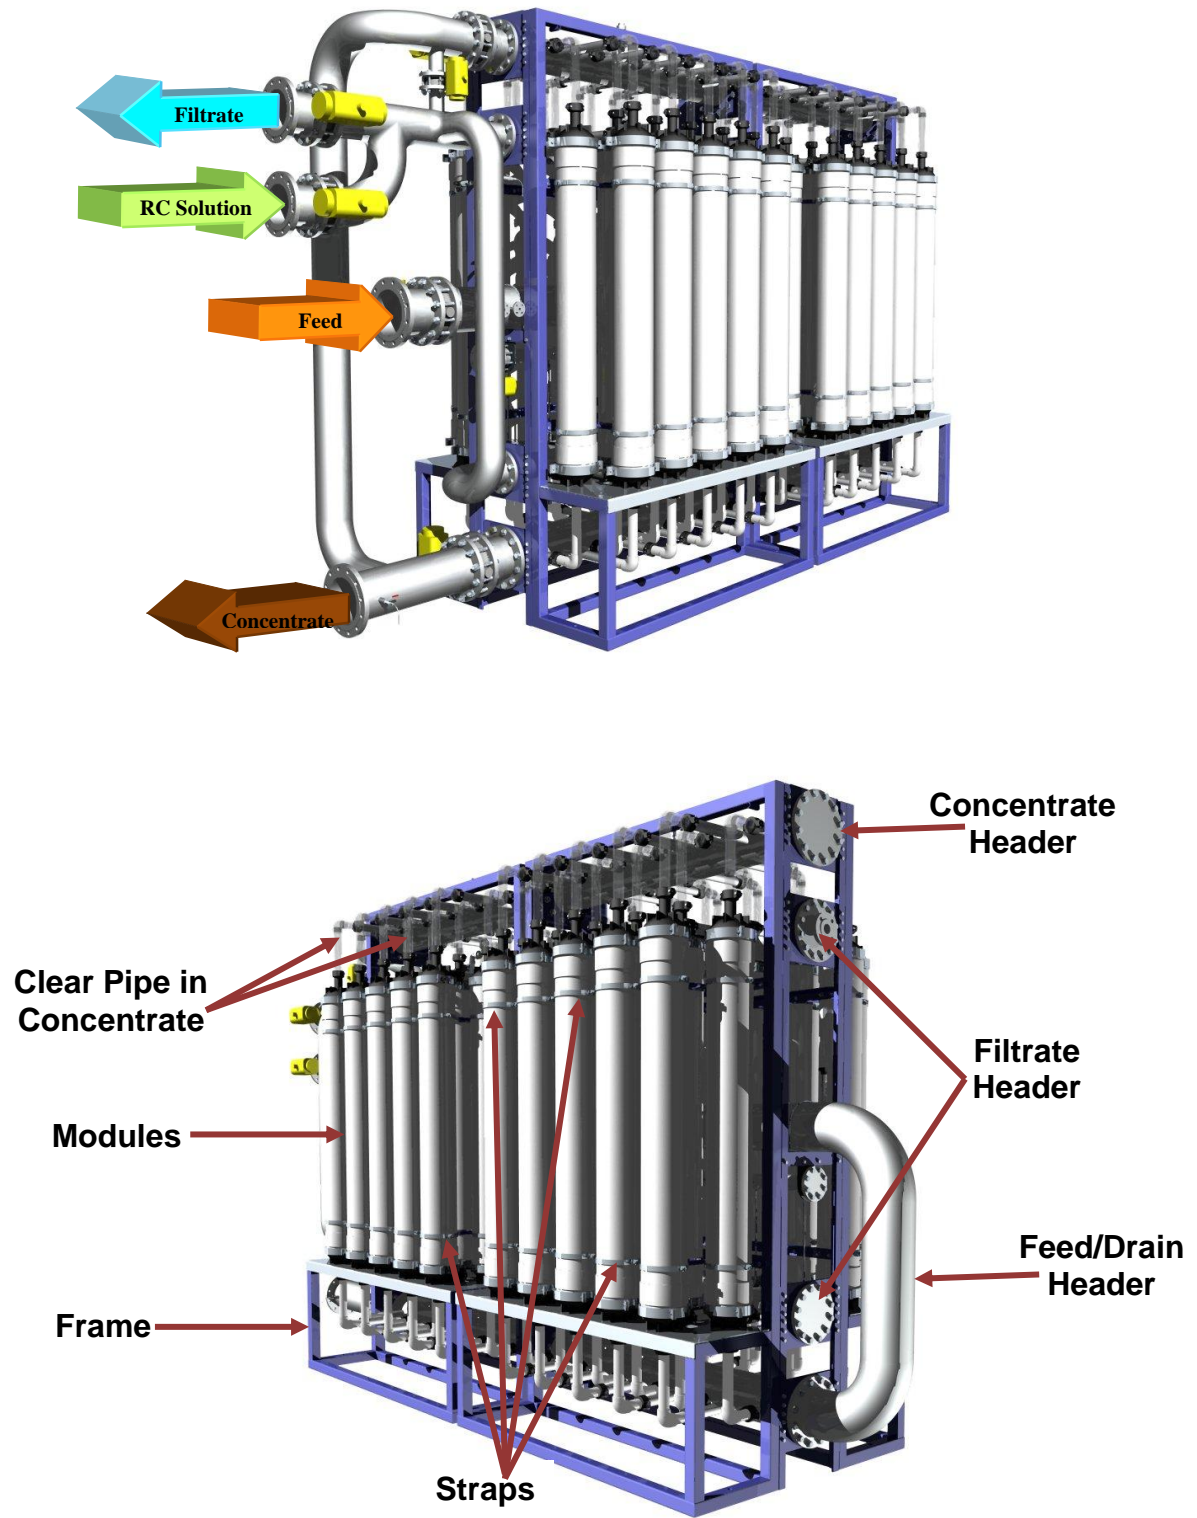

Figure 2: Example Rack Assembly Drawings
4. A suggested rack design is shown below in Figure 2. Hydranautics suggests double Victaulic flexible joints to connect all four ports of each module to the rack piping for the following reasons: